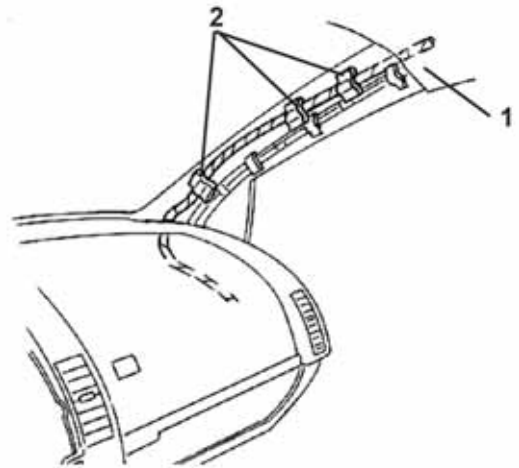

FIGURE 40
- 7.) CONTINUE ROUTING THE DVD MAIN WIRING HARNESS FROM THE TOP OF THE A-PILLAR (1) DOWN TO THE GLOVE BOX AREA AND SECURE USING THREE PIECES OF FOAM TAPE (2). (SEE FIGURE 40)